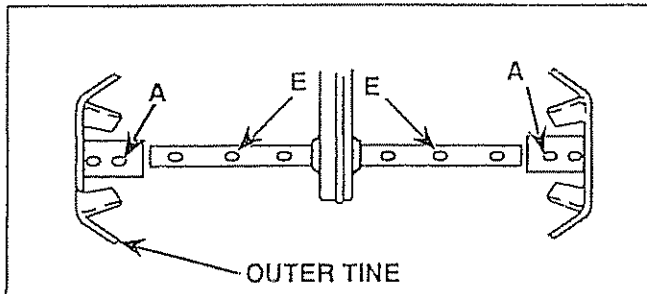

FIGURE 24
- NARROW CULTIVATING - 12 - 1/2 INCH PATH (inner Tines off, outer Tines assembled on middle shaft position). Holes "A" in Tines to holes "E" in Tine Shaft (Fig. 24). Use this arrangement for cultivating narrow rows.